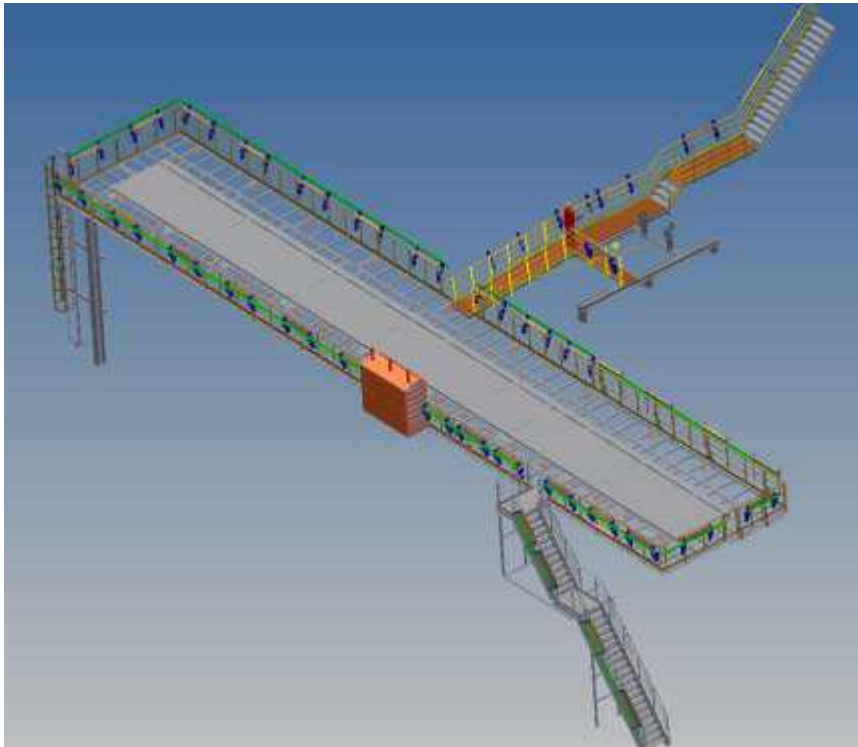

Figure 1.2.3 Walkways and stairs around Well Service Deck/Gooseneck Hook-up Frame
- Walkways and stairs around Well Service Deck/Gooseneck Hook-up Frame (Figure 1.2.3)